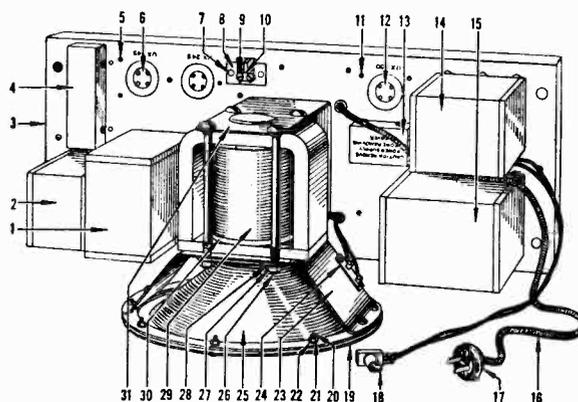

Fig. 3—Top View of Amplifier-Speaker Unit, showing parts.
**2. POWER LINE VOLTAGE**—The power line voltage should be measured with an A.C. voltmeter at the time of installation. If the voltage is consistently below 115 volts, turn off the power, pull out the power plug, remove the metal cover over the fuse in the amplifier unit (see 13, Fig. 3), and change the fuse position to the 110 volt side. If the voltage is 115 volts or above, the fuse should be left
- g. Shorted or open condenser in condenser bank or faulty connection to condenser bank 1, Fig. 3 and Fig. 15.
1. Faulty connection to tapped section of filter reactor, 14, Fig. 3.